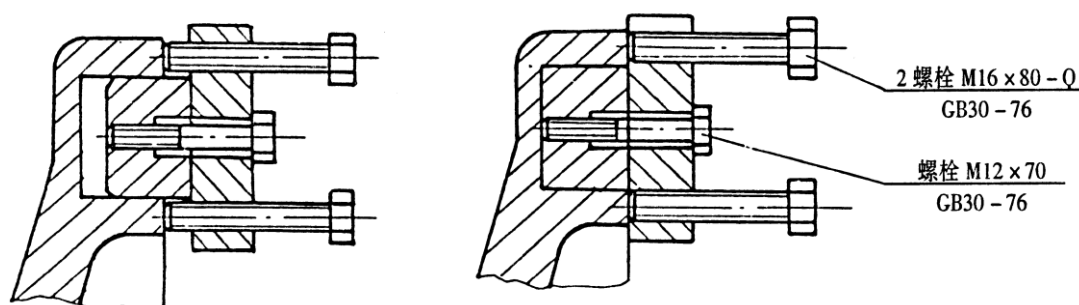

Fig15. Ring die driving key assemble and disassembly
7.1.1 Strictly follow the lubrication diagram (See Figure 15) to inject lube to each lubrication point. Add high temperature resistant grease from the rear of the main shaft for the roller.